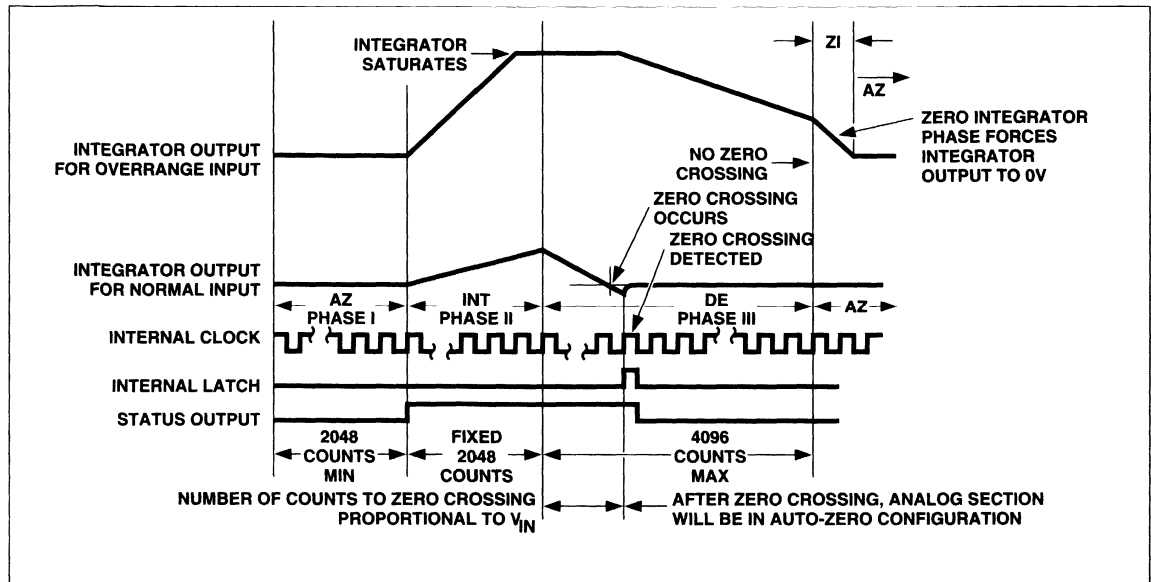

Figure 3 Conversion Timing (RUN/HOLD Pin High)
The functional diagram shows a block diagram of the analog section of the TC7109A. The circuit will perform conversions at a rate determined by the clock frequency (8192 clock periods per cycle), when the RUN/HOLD input is left open or connected to V^+ . Each measurement cycle is divided into four phases, as shown in Figure 3. They are: (1) Auto-Zero (AZ), (2) Signal Integrate (INT), (3) Reference Deintegrate (DE), and (4) Zero Integrator (ZI).
During ZI, the reference capacitor is charged to the reference voltage. The signal inputs are disconnected from the buffer and integrator. The comparator output is connected to the buffer input, causing the integrator output to be driven rapidly to 0V (Figure 3). The ZI phase only occurs following an overrange and lasts for a maximum of 1024 clock periods.
During a conversion cycle, the STATUS output goes HIGH at the beginning of signal integrate and goes LOW one-half clock period after new data from the conversion has been stored in the output latches (see Figure 3). The signal may be used as a "data valid" flag to drive interrupts, or for monitoring the status of the converter. (Data will not change while status is LOW.)
With the RUN/HOLD input high, or open, the circuit operates normally as a dual-slope ADC, as shown in Figure 3. Conversion cycles operate continuously with the output latches updated after zero crossing in the deintegrate mode. An internal pull-up resistor is provided to ensure a HIGH level with an open input.